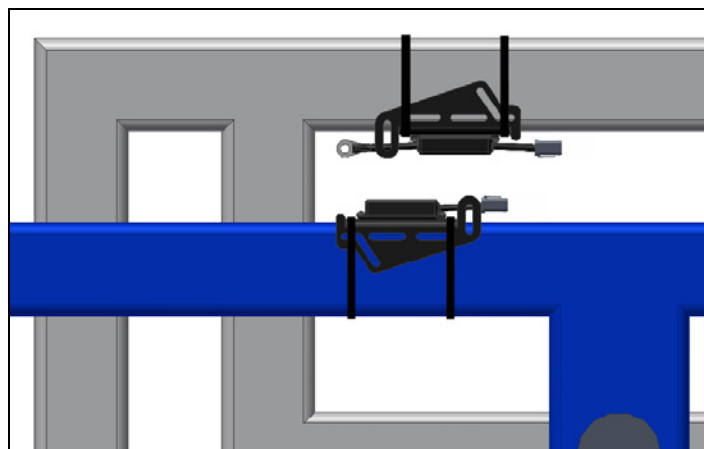

Figure 15: Inverted Chassis Roll Sensor Mounting on a Center Pivot Suspended Boom
5. The chassis roll sensor can also be mounted inverted to minimize the distance between the roll sensors (**Figure 15**).